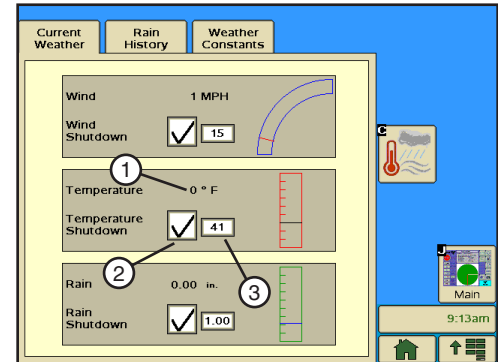

Figure 67-1 1. Current Temperature Field
1. View the current temperature reading in the **Temperature** field. Refer to Figure 67-1.